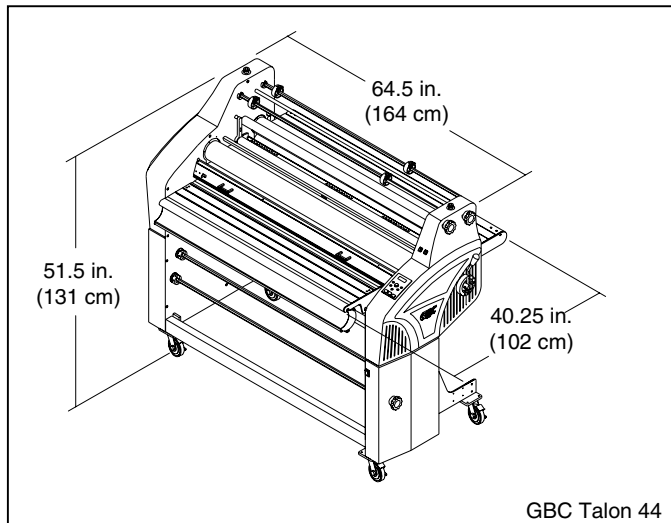

Fig. 1
**Dimensions (W x D x H):****Unit alone: (Figure 1)**